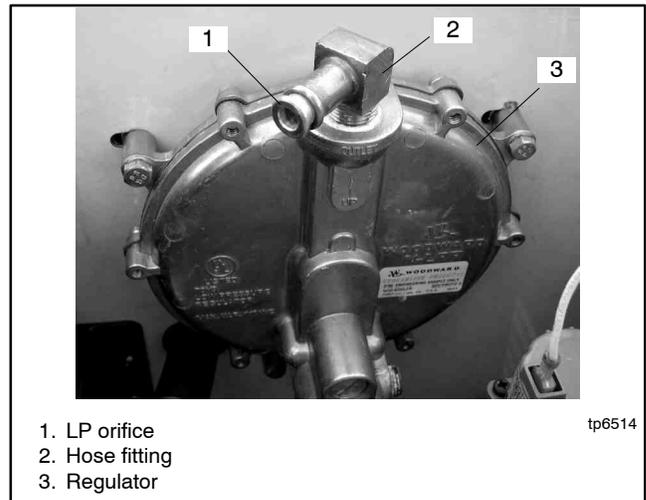

Figure 5-34 LP Fuel Orifice Installation
6. Place orifice into the hose fitting. See Figure 5-34.